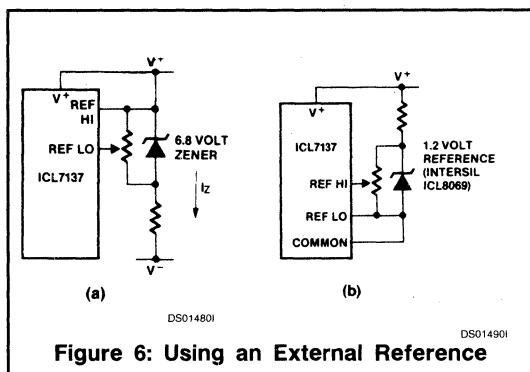

Figure 6: Using an External Reference
The limitations of the on-chip reference should also be recognized, however. The reference temperature coefficient (TC) can cause some degradation in performance. Temperature changes of 2°C to 8°C , typical for instruments, can give a scale factor error of a count or more. Also, the COMMON voltage will have a poor voltage coefficient when the total supply voltage is less than that which will cause the zener to regulate ($< 7V$). These problems are eliminated if an external reference is used, as shown in Figure 6.